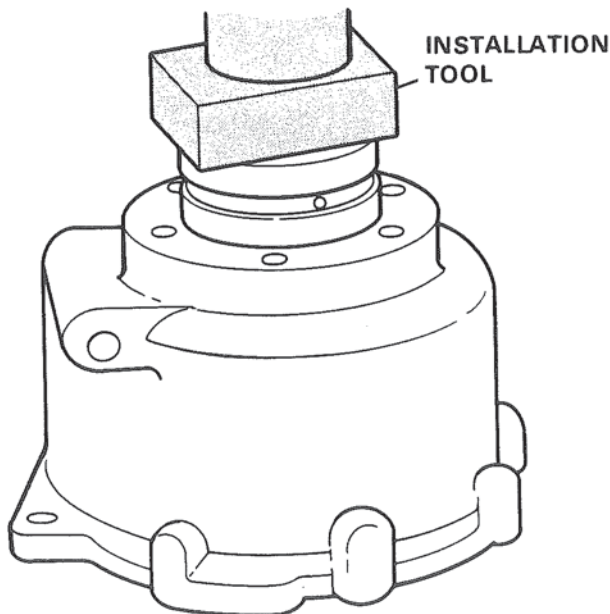

Figure 23. Installing Outer Bearing Race.
3. Lubricate the outer diameter of outer ring with automatic transmission fluid and press it into the reduction housing using a suitable tool until the outer race is seated firmly against the shoulder in the reduction housing. Figure 23.